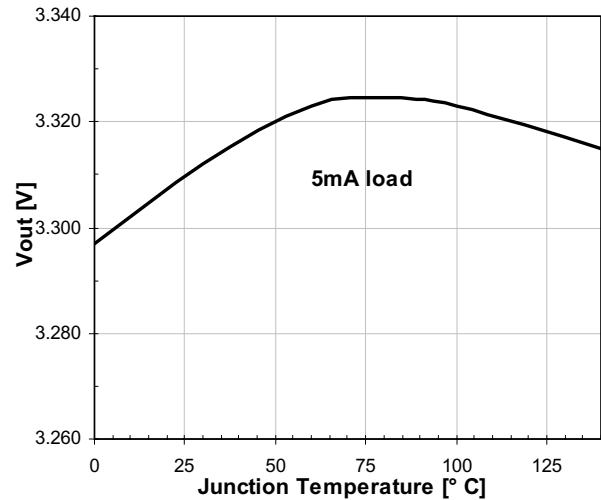

Figure 19. Output Voltage vs. Temperature
**Output Voltage vs. Temperature.** Figure 19 shows the regulator  $V_{OUT}$  performance up to the maximum rated junction temperature. The overall 125°C variation in junction temperature causes an output voltage change of about 25mV.